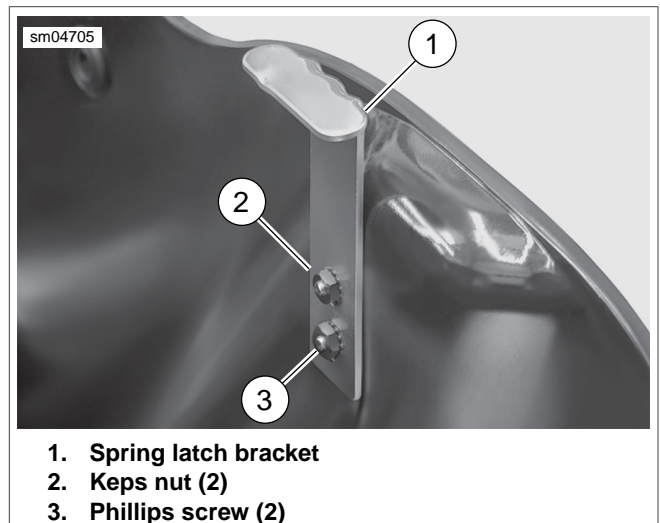

Figure 2-15. Spring Latch Bracket
- Inside saddlebag, remove two Keps nuts and spring latch bracket. Remove Phillips screws. See Figure 2-15.
- Inside saddlebag, install spring latch bracket and two Keps nuts. See Figure 2-15.